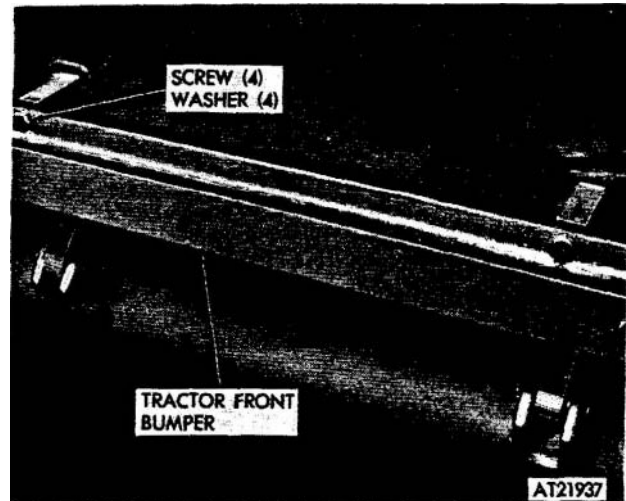

Figure 2-284. Front bumper, removal and installation.
(1) Support front bumper and remove four screws and washers securing bumper to tractor (fig 2-284).
(1) Position front bumper to tractor and secure with four screws and washers (fig 2-284).